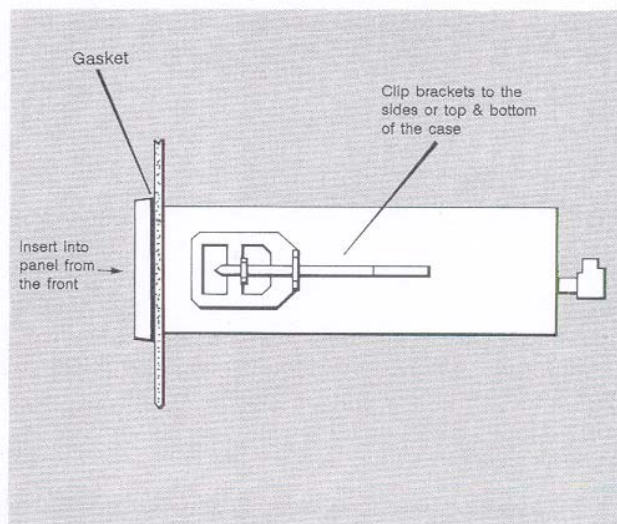

Fig 5 Installation in panel
- Clip a retaining bracket to each of two opposite sides of the instrument as shown in Figure 5 and tighten the two retaining bracket screws until the indicator is secure. Do not overtighten.